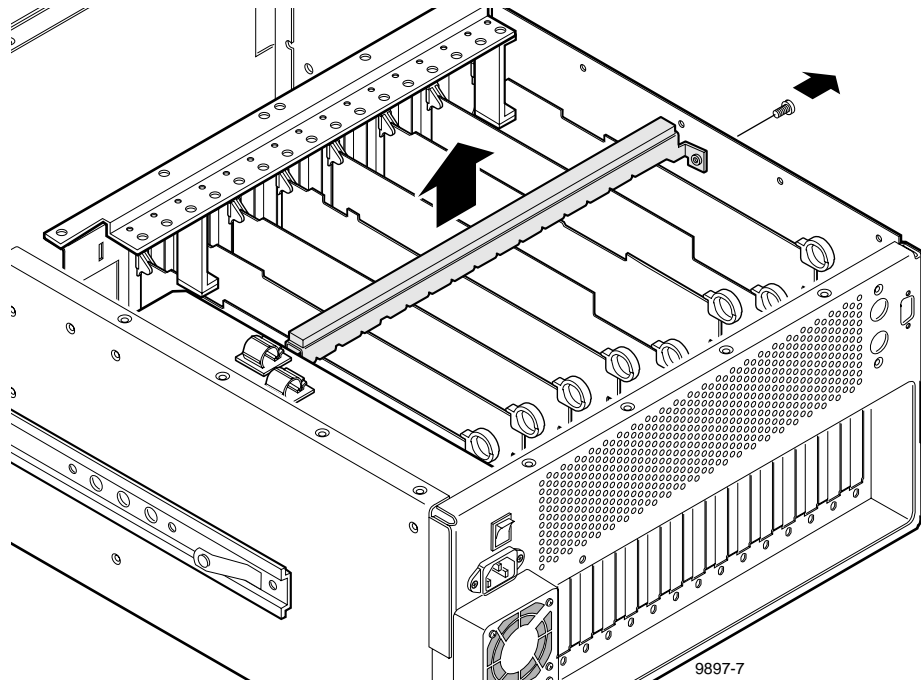

Figure 2. Removing the circuit board retainer
4. Remove the circuit board retainer as shown in Figure 2.